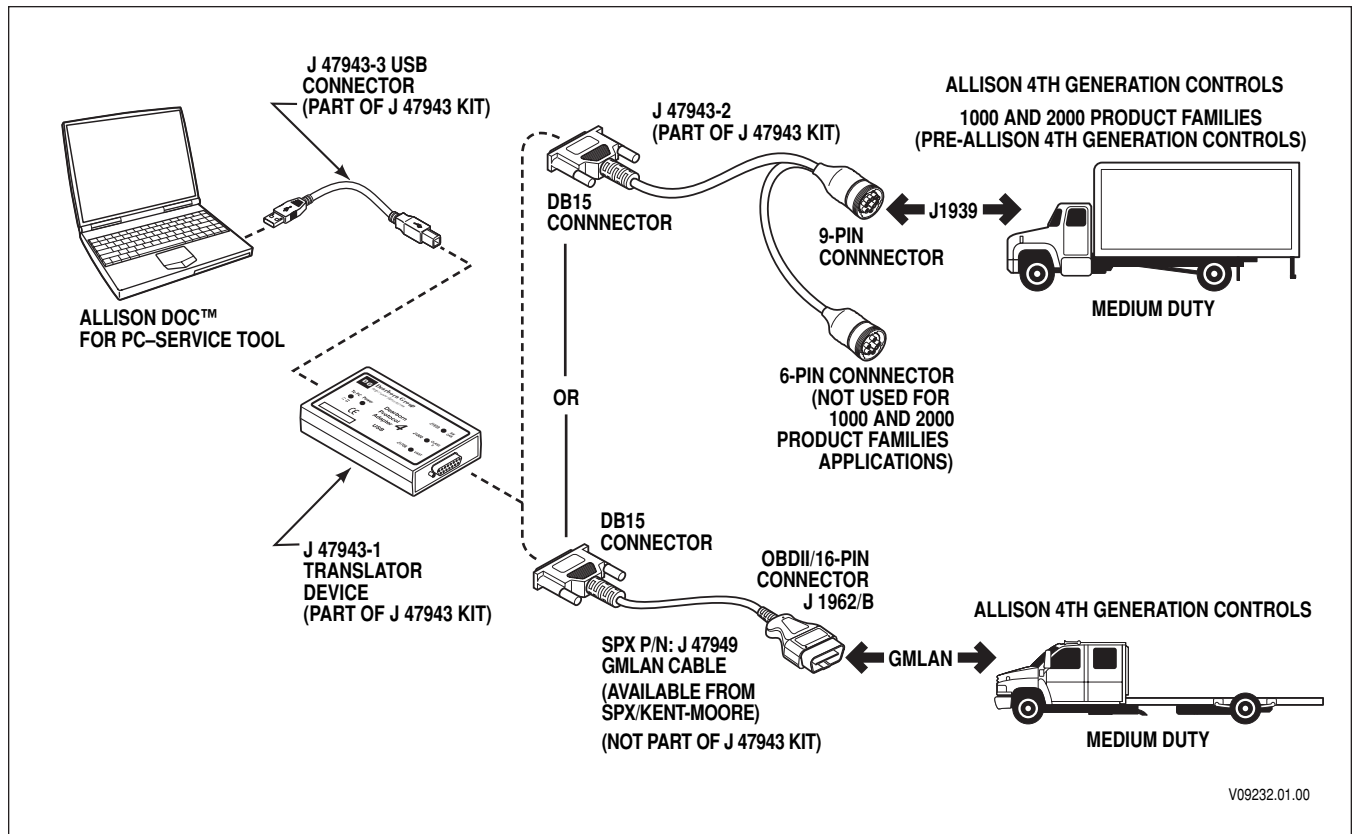

Figure 3–1. Proper Allison DOC™ For PC-Service Tool Connections
- The proper connections exist for communicating with Allison DOC™ For PC–Service Tool (Figure 3–1 and Figure 3–2).